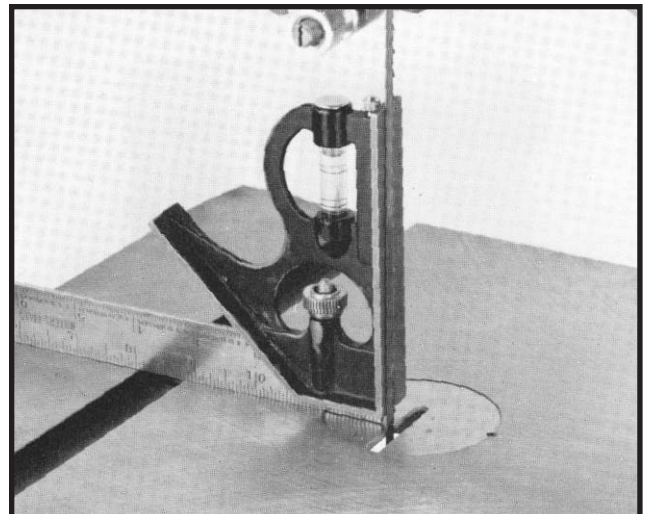

Fig. 17
3. Lower the table and make certain the table is 90 degrees to the blade as shown in Fig. 17.